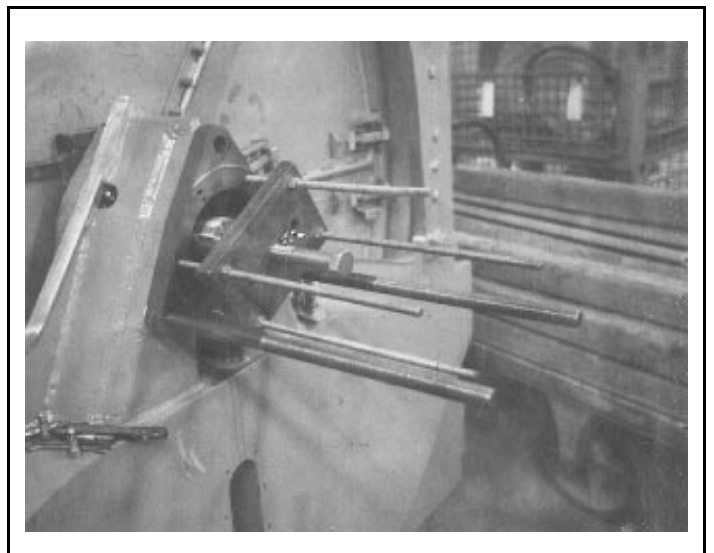

FIGURE 4 (MSSM0303AE)
2. Install the pulling fixture as shown in FIGURE 4, by placing each of the four threaded rods through a hole in the steel plate with hexnuts to the outside of the plate then screwing each rod into the appropriate tapped hole in the bearing housing (same holes as used to mount the bearing cover or shaft seal holder).